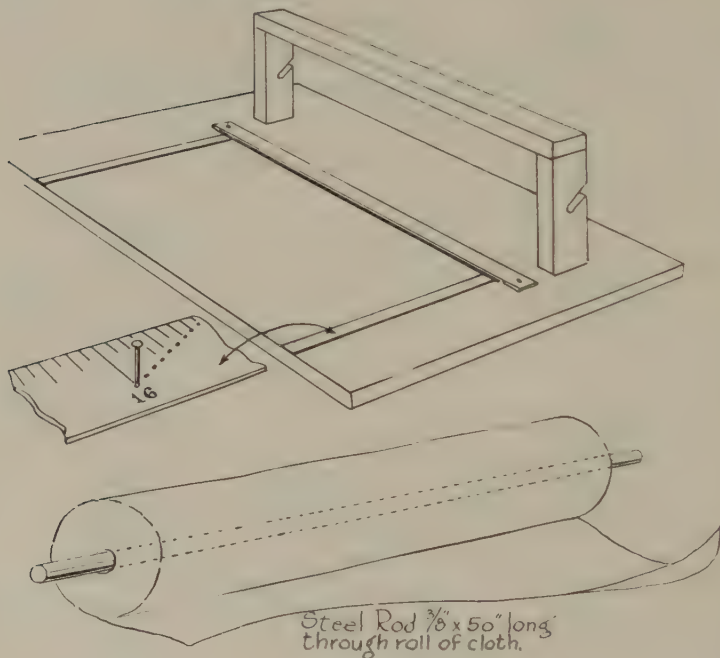

FIG. 94
1. At one side near one end of any bench or table to be used for cloth and leather cutting (with bins underneath or nearby) build a frame of 2" x 4" pine joist, planed foursides. (Fig. 94.)
4. Secure a $\frac{3}{8}$ " diameter (hardened) round steel rod 50" long. (Fig. 94.)